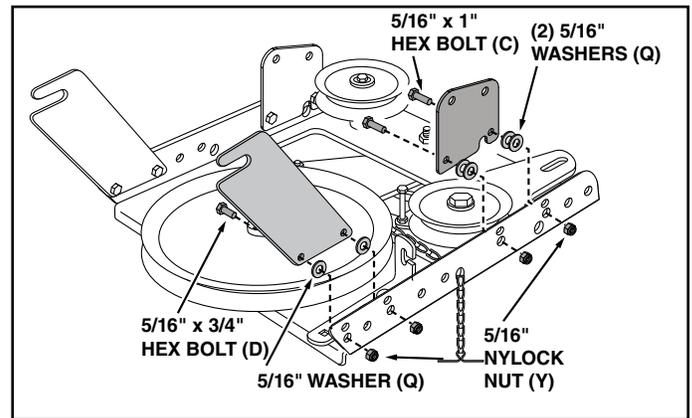

FIGURE 9
STEP 9: (SEE FIGURE 9)
- Using lower set of holes attach each rear pulley frame bracket to the inside of the clutch frame using two 5/16" x 3/4" hex bolts (D), 5/16" washers (Q), and 5/16" nylock nuts (Y). **Use upper set of holes for Husqvarna TS200 with dual pedals.**
- Using lower set of holes attach each front pulley frame bracket to the inside of the clutch frame using two 5/16" x 1" hex bolts (C), four 5/16" washers (Q), and two 5/16" nylock nuts (Y). **Use upper set of holes for Husqvarna TS200 with dual pedals.**